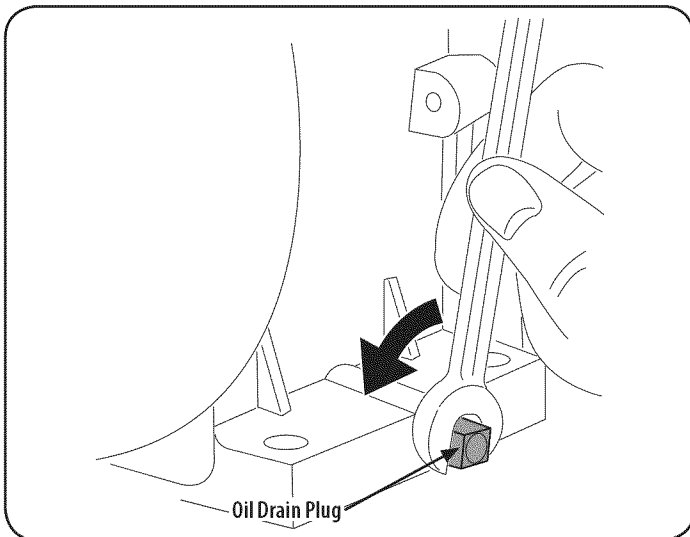

Figure 14
4. Remove the oil drain plug, see Figure 14.